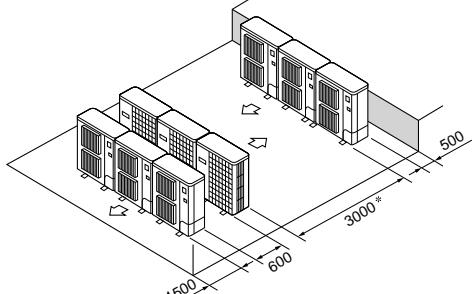

Fig. 2-14
⑥ Multiple parallel unit arrangement (Fig. 2-14)